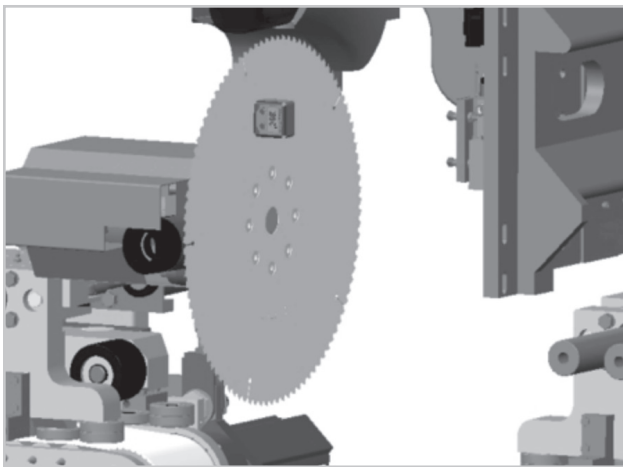

Figure 64
Step 3 – Once the gauge has been set to 0.0, place it on the blade as shown in Figure 64.